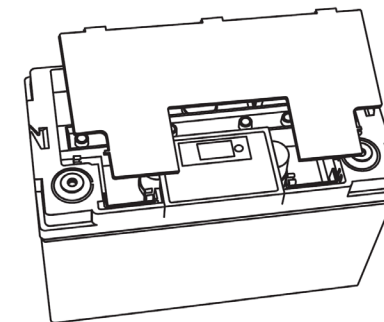

Figure 5.
Step 6. After refilling the electrolyte, return the safety valves to their place. Close the battery with the cover (Figure 5). The electrolyte containers and the topping tube can be disposed of.